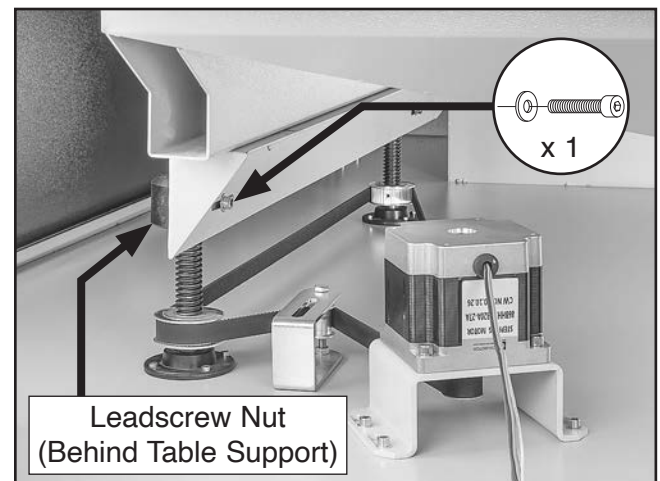

Figure 88. Example of leadscrew nut cap screw location.
9. Remove (1) cap screw and flat washer from front leadscrew nut (see **Figure 88**).